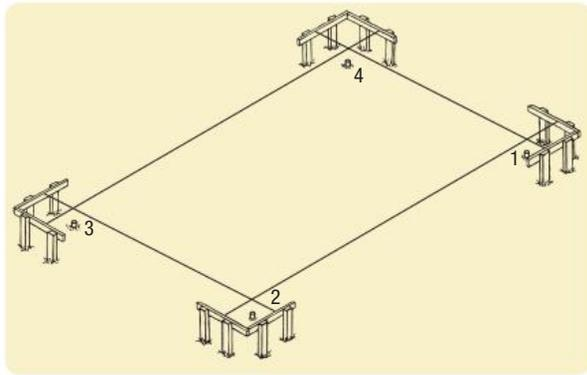

Figure 4.19 Setting out the profiles
- 2 You are now ready for marking out the sizes so that lines can be stretched out as shown in Figure 4.19.